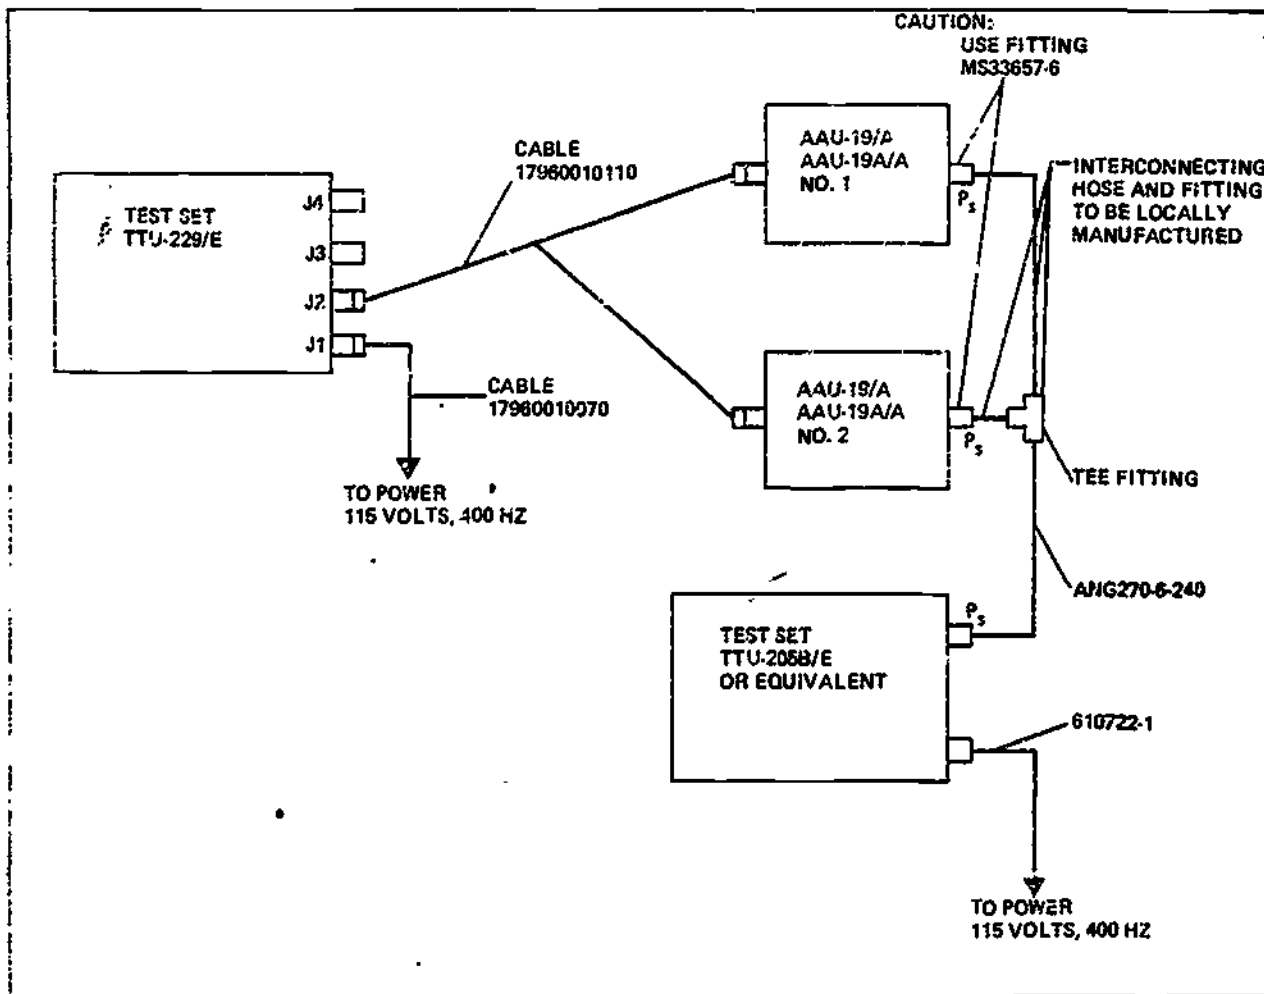

Figure 4-1. Type AAU-19/A, AAU-19A/A Field (Intermediate) Maintenance (Bench Check) Test Set Up
2. Check figure 4-1 of TO extract to make sure the equipment is connected electrically according to the diagram.
4.12. Make the following connections. (See figure 4-1.)
4-15. Make the following connections. (See figure 4-1.)